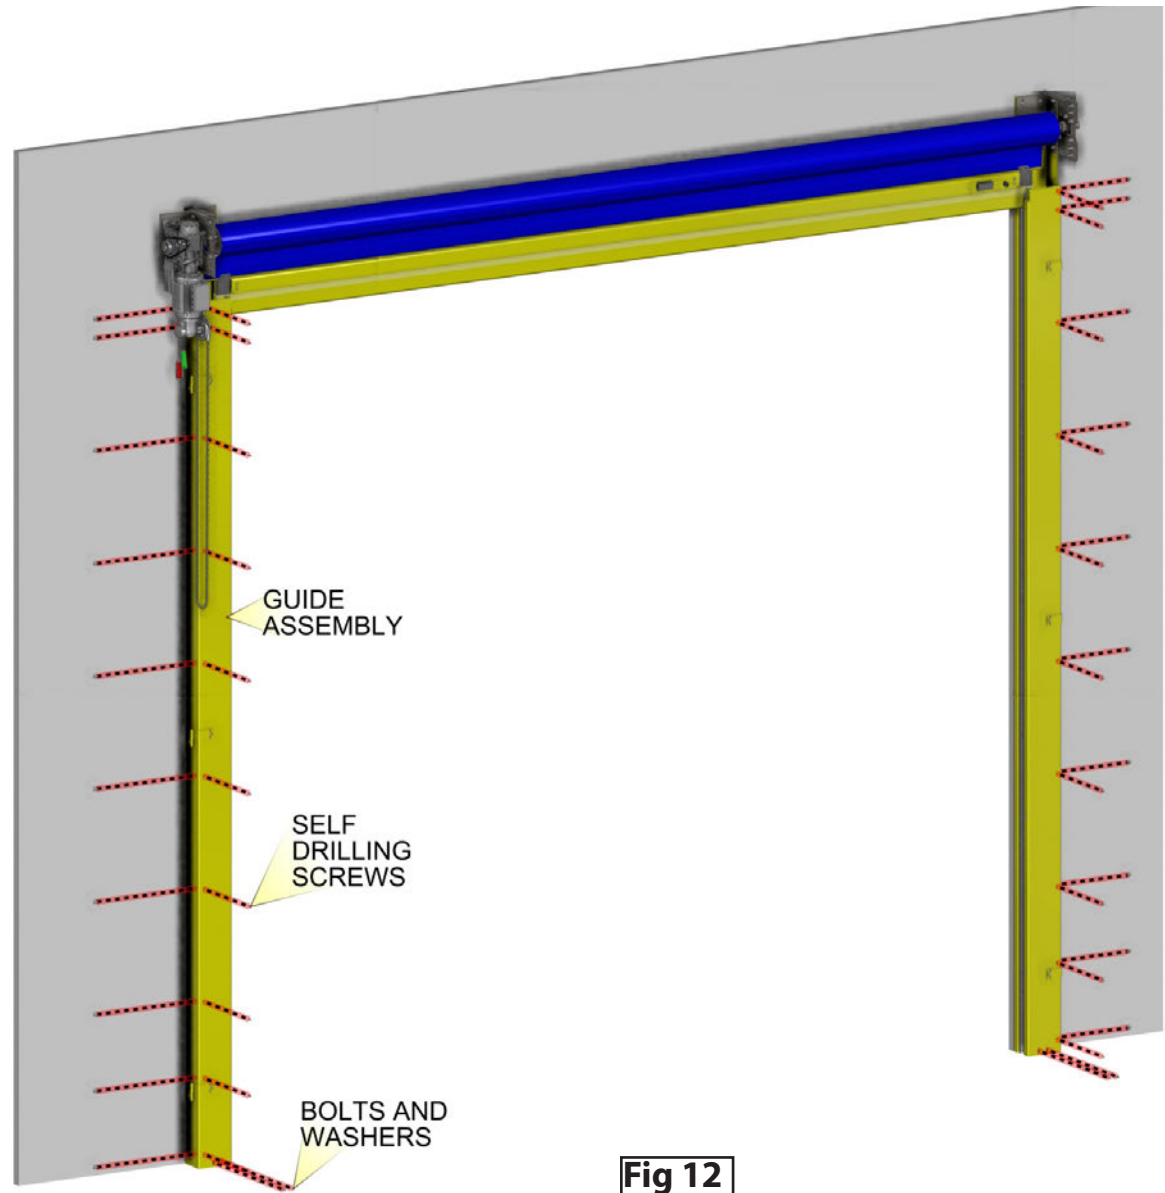

Fig 12
- Close the hinged guide assemblies and bolt in place using the self drilling screws provided, as shown in FIG 12.
- Using the bolts and washers provided attach the front guide to the floor bracket, as shown in FIG 12.